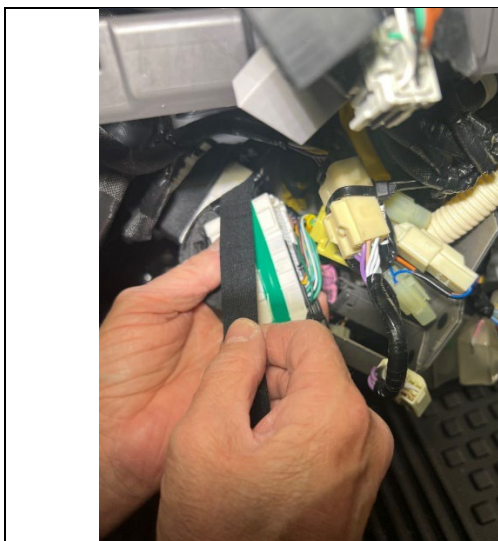

Figure 29
32. Use a strip of Tesa tape to tape the black wiring harness going to H98 to the right-hand side of H98. (See Figures 29 and 30.)